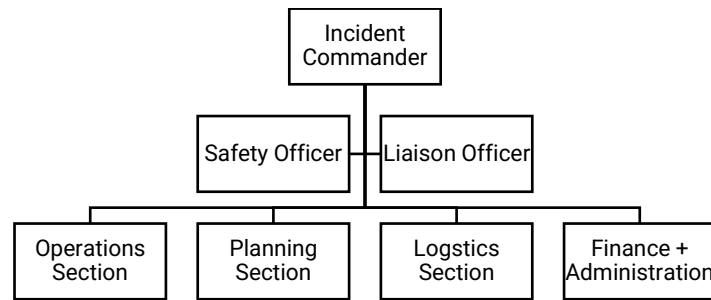

Figure 2: Incident Command Structure
The first responder on the scene will establish incident command and assume the role of Incident Commander (IC). As higher ranking, or more qualified, personnel arrive on scene, they will take over as IC. The IC will communicate the need for resources to the ESFs (Emergency Support Functions). Figure 2 illustrates a typical ICS organization chart. The ICS organization is scalable and flexible based on the incident needs.